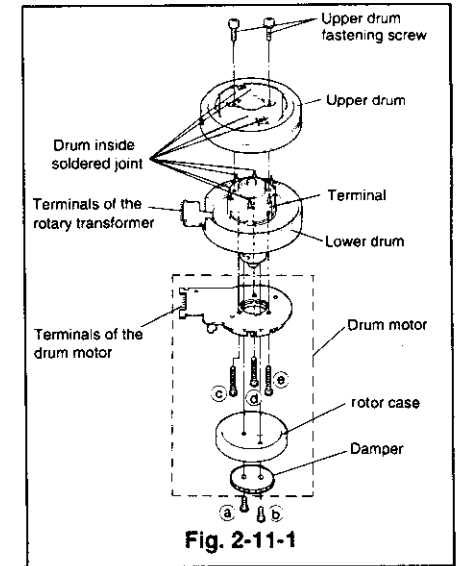

Fig. 2-11-1
- ② Unsolder the terminals of each head on the upper drum.
- ③ Remove the screws holding the upper drum shown in Fig. 2-11-1.
- ④ Remove the upper drum slowly and carefully.
- ⑤ Remove the screws (a) and (b) shown in Fig. 2-11-1 to remove the rotor case and damper. Remove the screws (c), (d) and (e) to remove the drum motor.